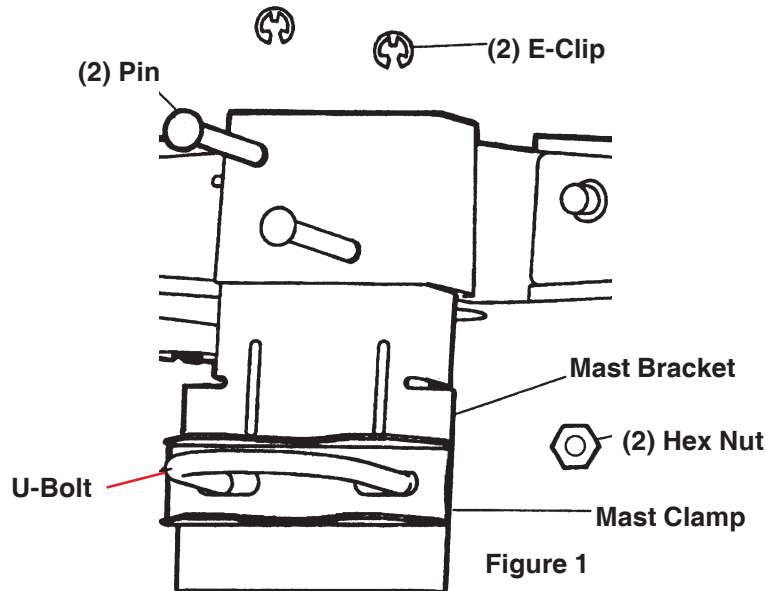

Figure 1
STEP 1. Make sure "W" opening is on bottom side of antenna head, foot embossing points down. Slide metal mounting bracket up into back bracket on antenna and attach with pins and E-clips. See Figure 1.
STEP 2. Insert "U" bolt thru mast clamp and mast bracket and start hex nuts onto "U" bolt. See Figure 1.